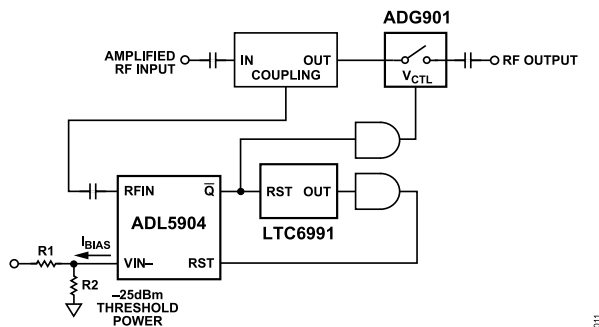

Figure 11. CN0518 Overpower Protection Circuit
The ADL5904 provides a resistor-programmable detection threshold, which compares the voltage from an internal envelope detector with a user-defined input voltage. When the voltage from the envelope detector exceeds the user-defined threshold voltage at the  $V_{IN-}$  pin, an internal comparator captures and latches the event to a set/reset (SR) flip-flop. Figure 11 shows the overpower protection circuitry for the CN0518.
As shown in Figure 11, the amplified RF input is sampled by a 25.5 dB RF directional coupler. This power is forwarded to the RFIN pin of the ADL5904, which is then sampled by the internal envelope detector. The ADL5904 threshold voltage level on  $V_{IN-}$  pin is set by a resistor divider network, which value can be computed using Equation 1: